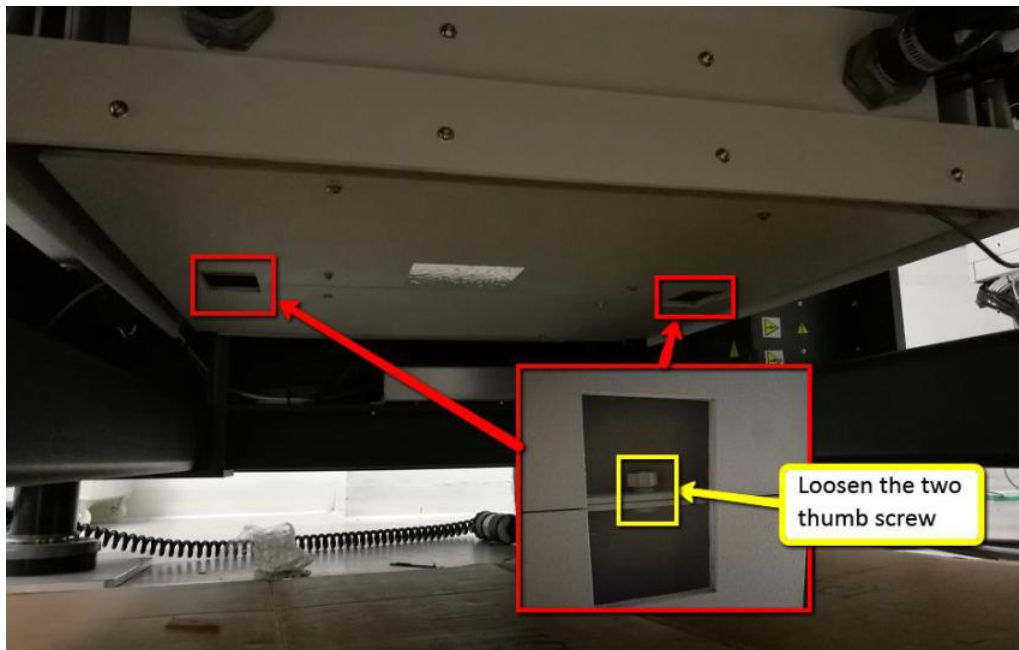

Figure 1 Camera enclosure
2. Loosen 2 x Thumb screws at Camera Enclosure as shown in Figure 1.